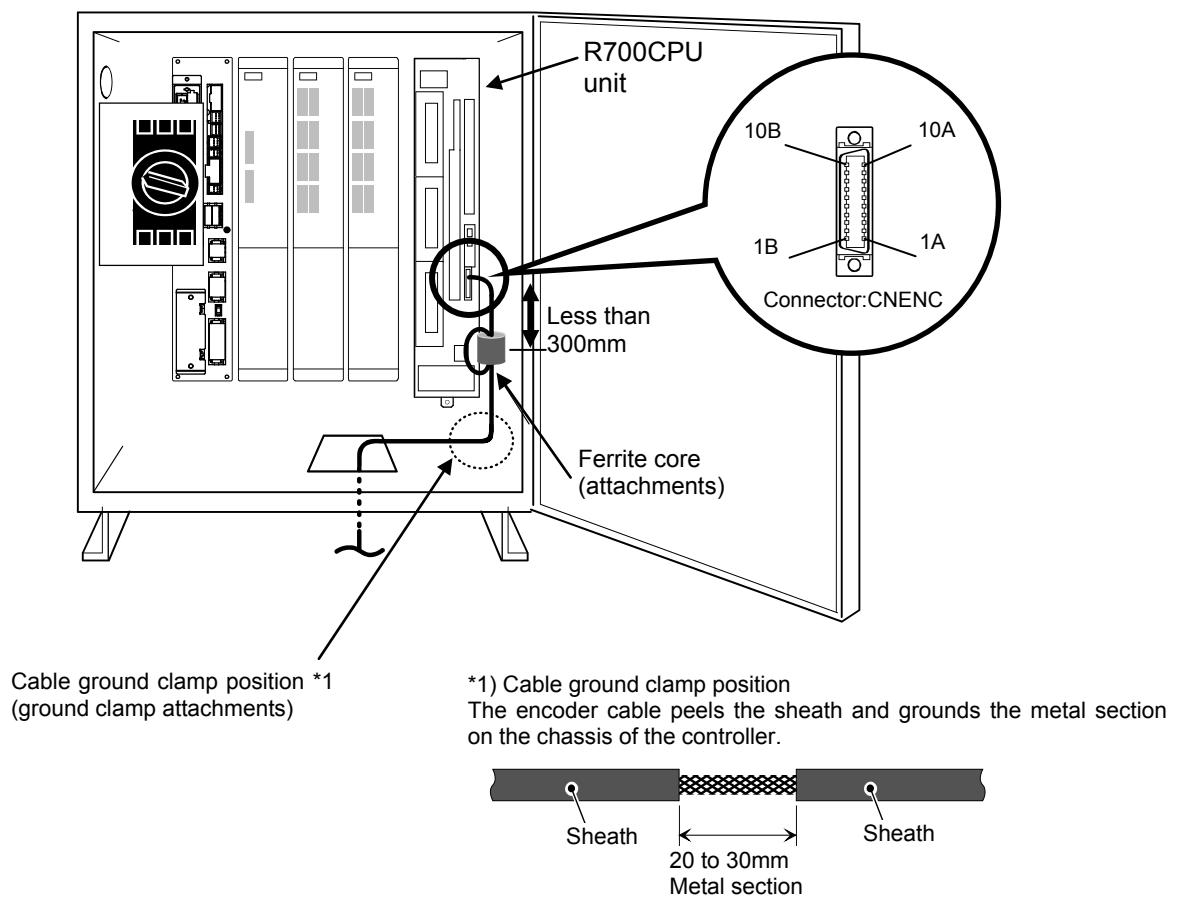

Figure 10-11 Installation of encoder cable (CR3D-700 series)
- *CR3D-700 series: "Figure 10-11 Installation of encoder cable (CR3D-700 series)"